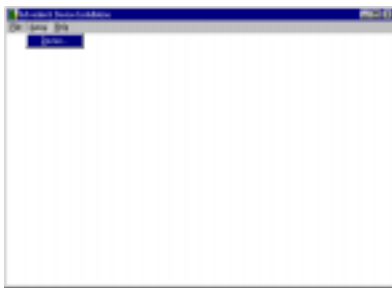
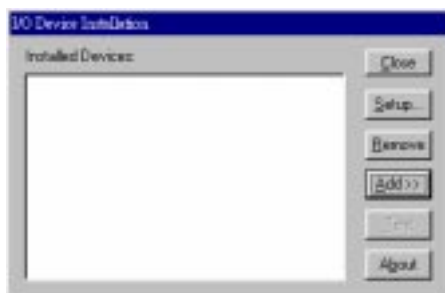

Fig. 2-5 The Advantech Device Installation utility program
Fig. 2-6 The I/O Device Installation dialog box
Step 2: On the *Device Installation* program window, select the *Setup* menu item on the menu bar, and click the *Device* command (Fig. 2-5) to bring up the *I/O Device Installation* dialog box (Fig. 2-6). You can then view the device(s) already installed on your system (if any) on the *Installed Devices* list box. Since you haven't installed any device yet, you might see a blank list such as below (Fig. 2-6).